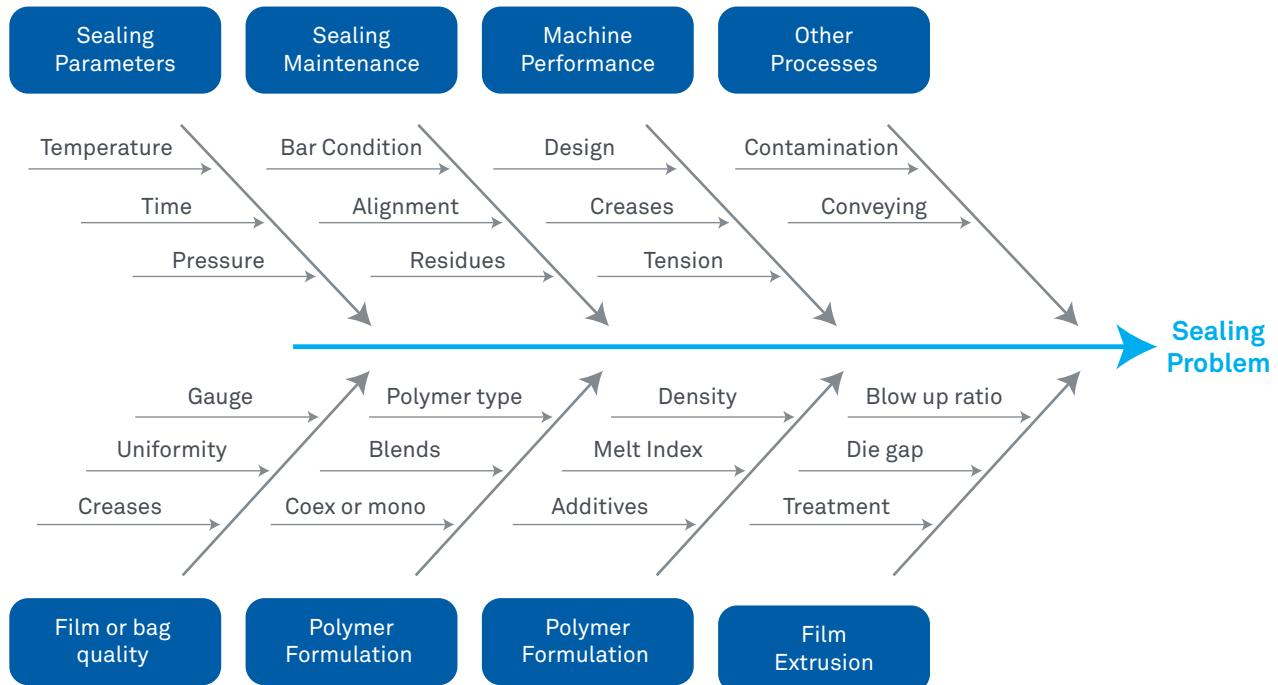

Figure 1. Troubleshooting on-going sealing problems
- Even if none of the above applies, it is recommended to try adjusting some of the sealing settings, such as increasing or decreasing the sealing time, or altering the sealing temperatures and observing the outcomes. These tests may solve the problem, and will also provide valuable information for troubleshooting. If the problem is not resolved after these tests and the packaging line equipment has been through a thorough maintenance program, the next step is to look at the film, as indicated in Figure 1.